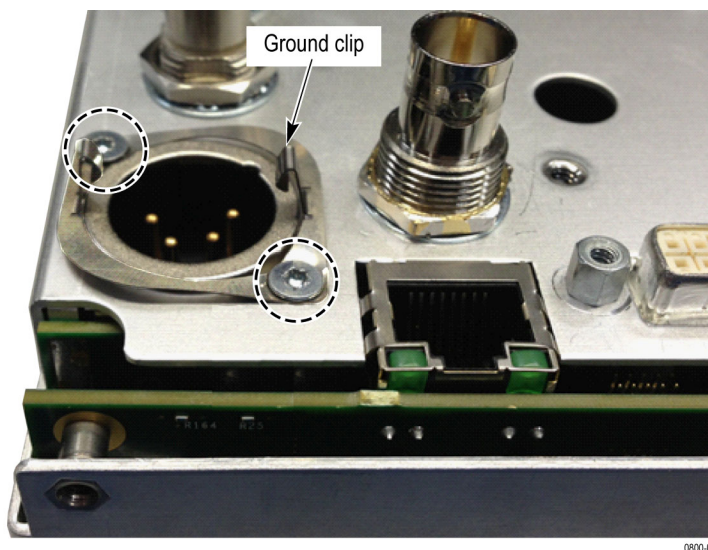

Figure 4: XLR connector ground clip
5. Remove the two 40 X 0.375 T8 flat-head screws that secure the ground clip and the XLR connector to the rear panel. When reinstalling, install the ground clip as shown. (See Figure 4.). Tighten the screws to 0.62 N-M (5.5 in/lb).